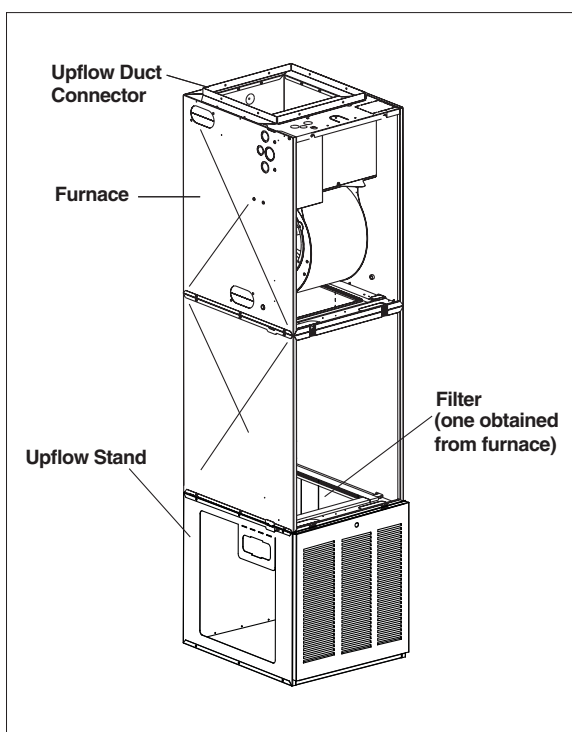

Figure 17. Over-the-Floor Return Air System with Upflow Stand
2. With optional upflow stand: (see Figure 17)
2. Use optional upflow stand with filters or construct a suitably braced mounting platform in closet (see Figure 17 or 18).
6. Use optional upflow duct connector or field supplied connector to attach furnace to overhead supply duct. (see Figure 17)
6. Use optional upflow duct connector or field supplied connector to attach furnace to overhead supply duct (see Figure 17).